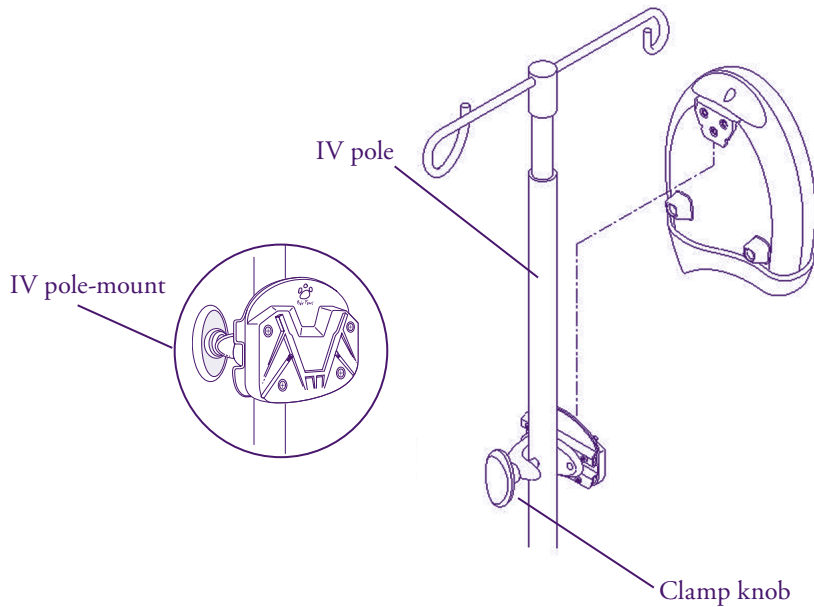

Figure 3. Installing a warming unit onto an IV pole.
2. Turn the clamp knob on the IV pole-mount clockwise to tighten the clamp to the pole (Figure 3).